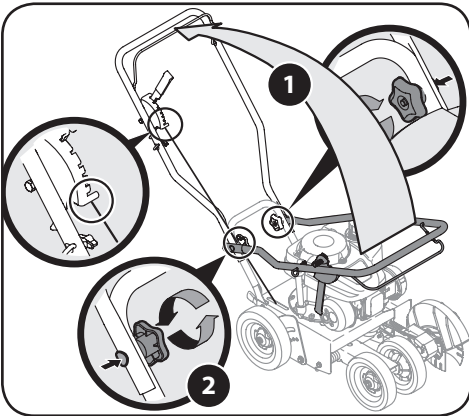

Figure 2-1
- 1. Pivot the upper handle upward until it snaps into place. See 1 in Figure 2-1.
- 2. Tighten the star knobs (a), which are located on both the left and right sides of the handle. See 2 in Figure 2-1.